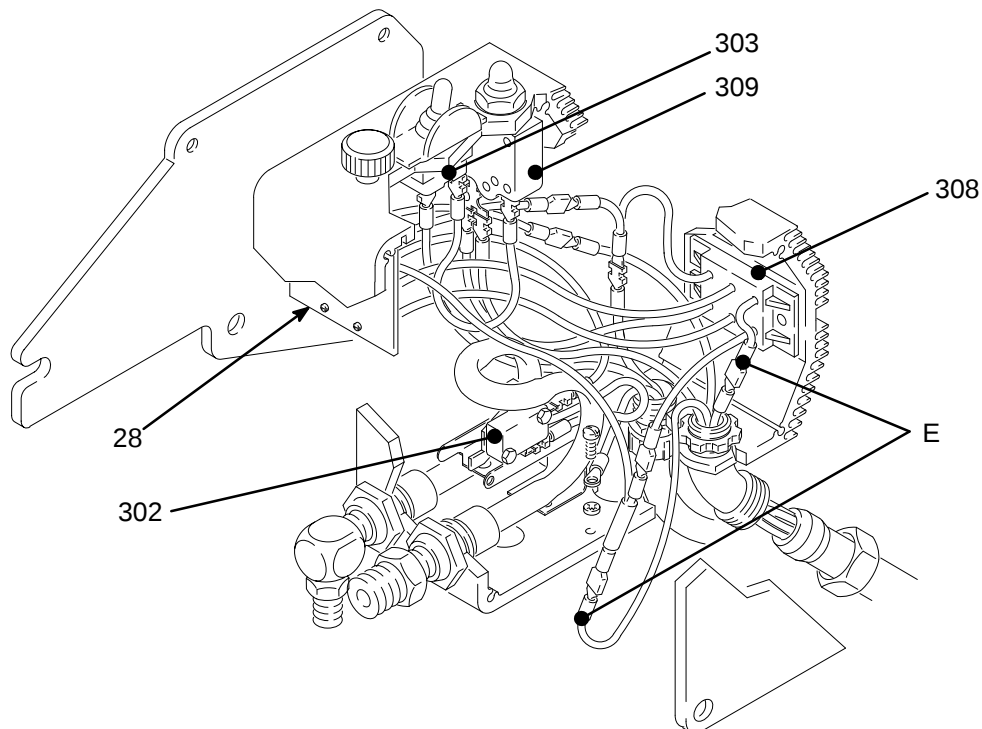

Fig 11
Disconnect the two leads (E) from the motor to the bridge (308). See Fig 11.